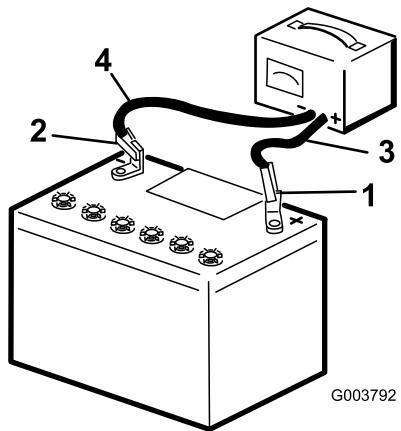

Figure 79
3. Connect the negative lead of the battery charger to the negative-battery post (Figure 79).
5. When the battery is fully charged, unplug the charger from the electrical source, then disconnect the charger leads from the battery posts (Figure 79).